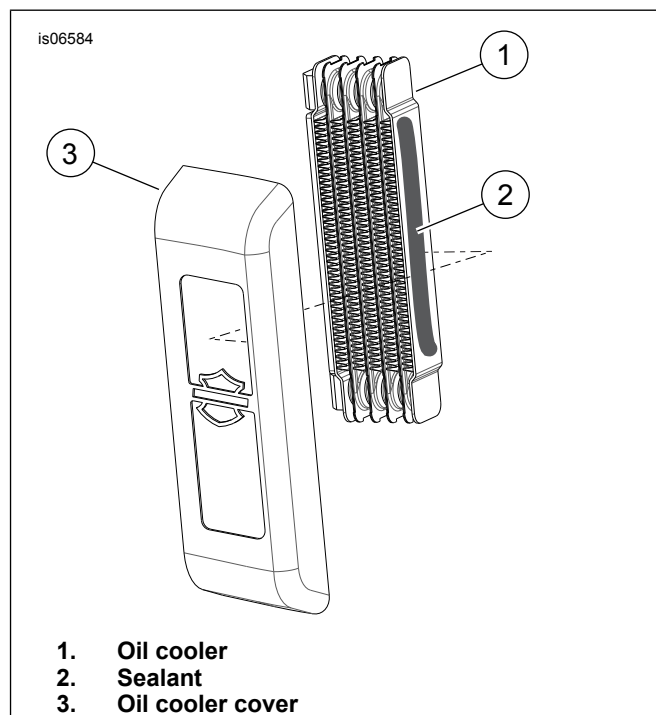

Figure 1. Attaching Cover to Oil Cooler
2. See Figure 1. Apply a thick bead of High Performance Sealant-Gray to the left side flat surface of the oil cooler and install the oil cooler cover by pressing it into the sealant.